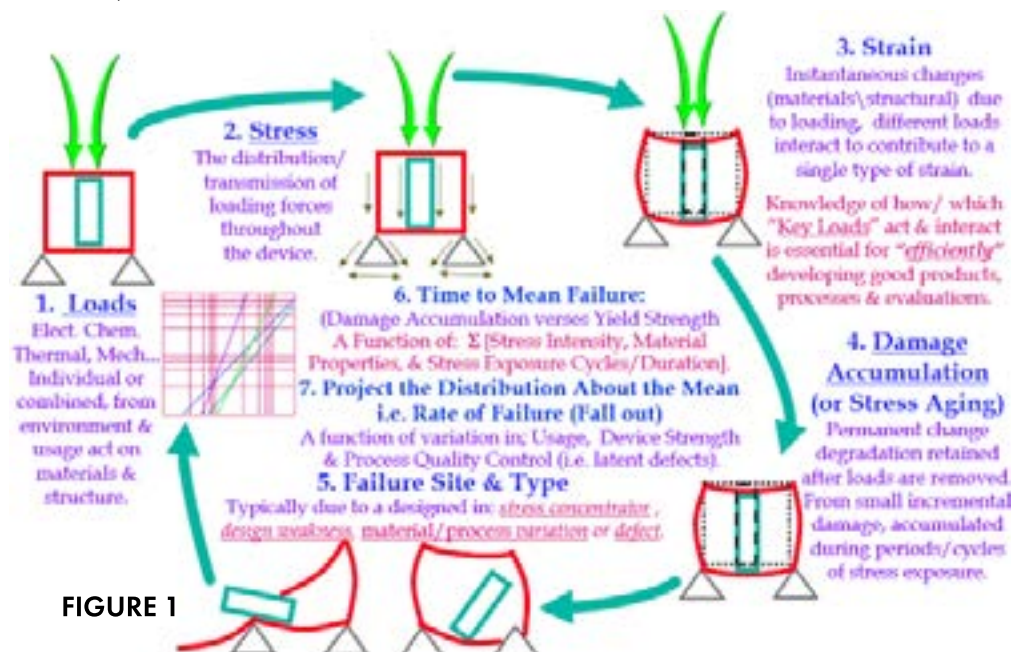

FIGURE 1
The math models of aging-wear out mechanisms of E/E components and materials is based on the material science principles of Stress Driven Damage Accumulation which is also known as “Stress Aging” (Figure 1). These methods are very effective when used as part of “Reliability by Design” efforts during product development. Knowledge of potential failure mechanisms can help guide a designer to avoid potential problems in order to optimize a product’s design to be robust, highly reliable and durable.
**Figure 1: Physics of Failure Wear out Failure Mechanism Models are based on the Material Science Principle of Stress Driven Damage Accumulation in Materials (aka Stress Aging).**